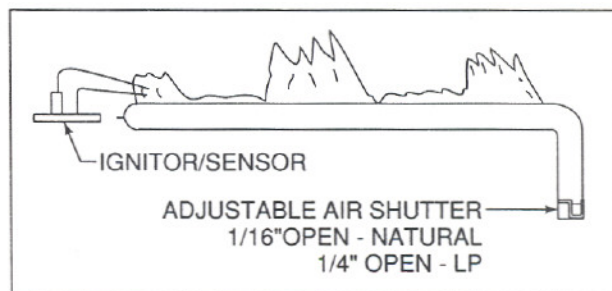

Figure 6
- B. Periodically visually check the flame of the pilot and burner, making sure the flames are steady; not lifting or floating. The flame color should be blue with yellow tips. The ignitor tips should be covered with flame. See Figure 6.